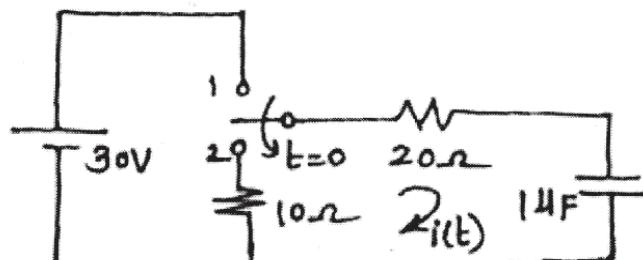

Fig. 6
- c) In the network shown in Fig. 6, switch is moved from position 1 to 2 at $t = 0$. Find $i(t)$, $\frac{di(t)}{dt}$, $\frac{d^2i(t)}{dt^2}$ at $t = 0^+$ by Laplace Transform approach. [6]